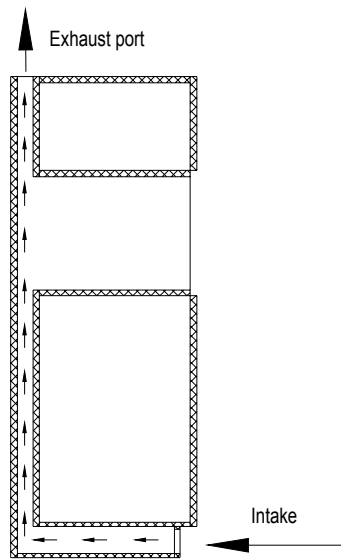

Fig 7
f) Cabinet airflow chart as shown in Fig.7.